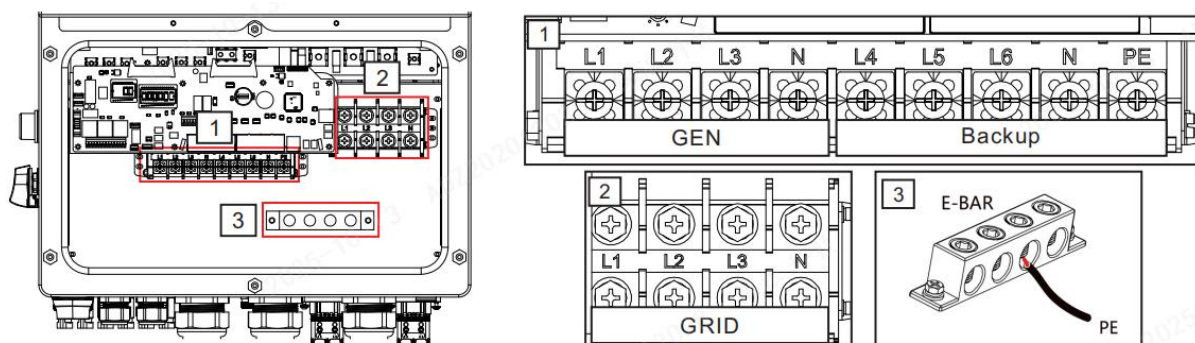

Figure 5-13 AC terminal in inverter wiring box
1. As shown in Figure 5-13, on the right is the grounding copper bar of the battery cabinet. The holes in the copper bar are M6. SolisStorage will provide two grounding cables. The cable label is: L071101-02170 Connect the two grounding cables from the left and right shells of the hybrid inverter to the grounding copper bar.